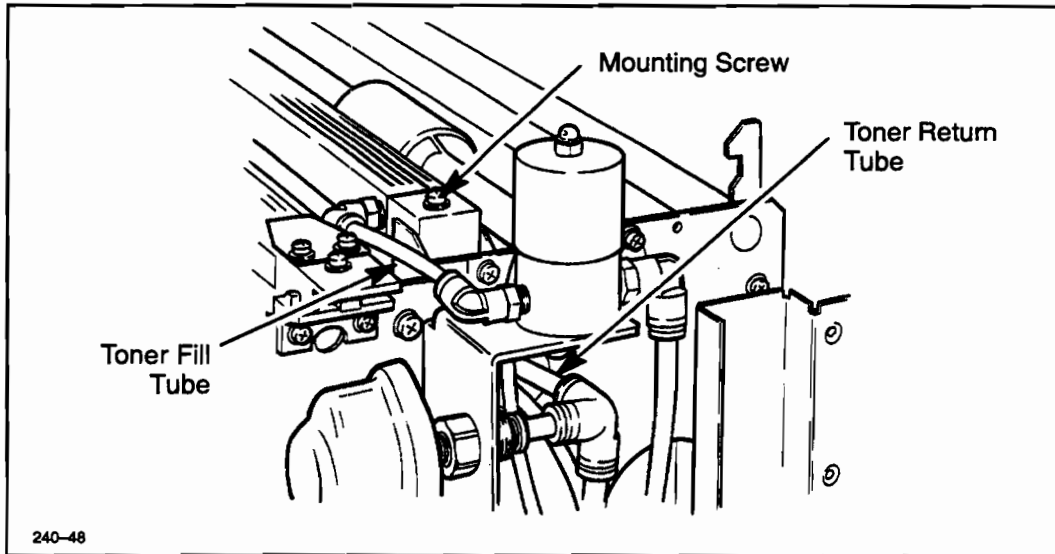

Figure 6-57. Tube Fittings and Screws
7. Remove the toner fill tube at the back of the left end of the developer bar. See Figure 6-57.